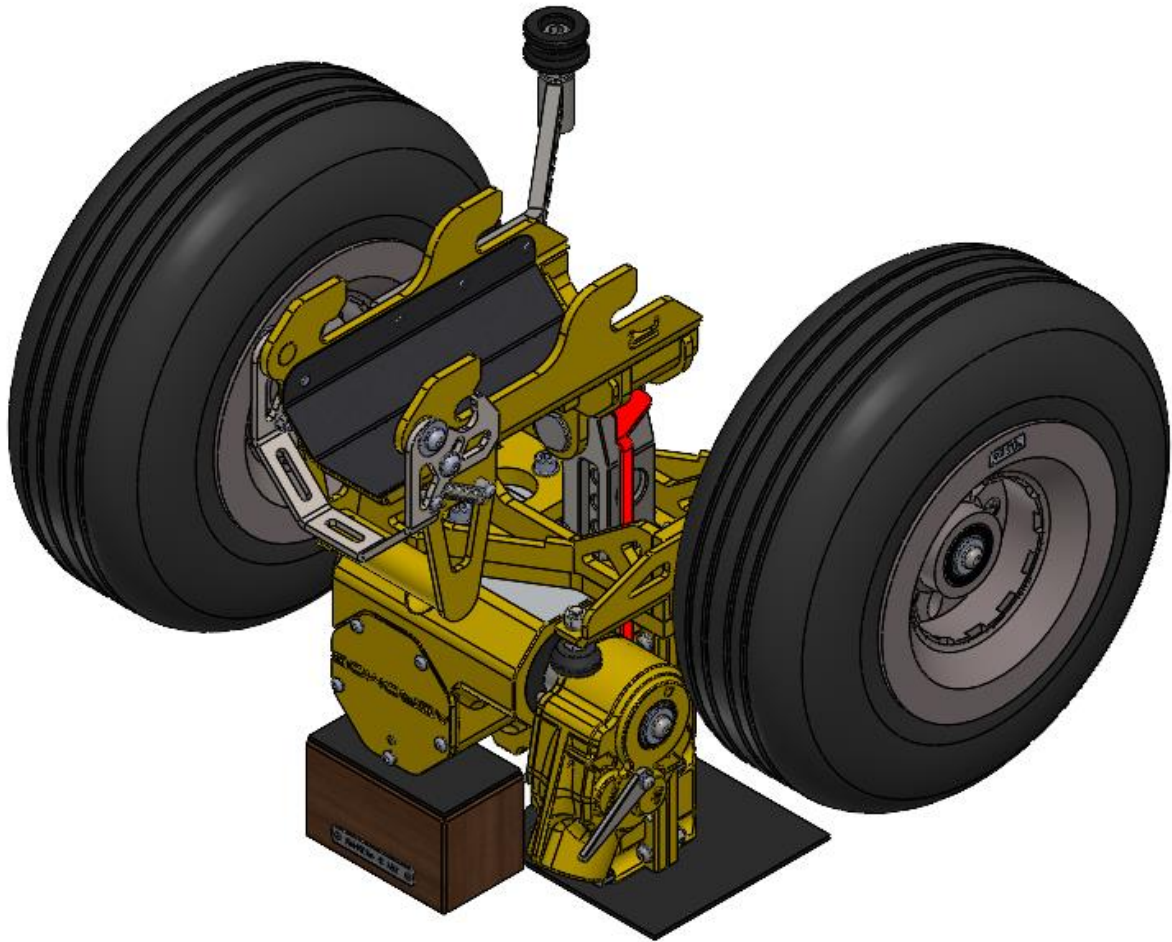

Figure 18
- kk. With the block upside down and the gear rack all the way out, install the assembled wheels according to MM-AM-HDM-145-K01/4-3. See Figure 18.